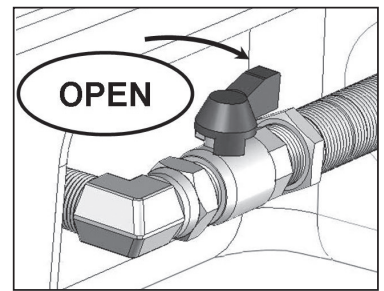

Figure 2
3. Open valve by turning the ball valve handle clockwise. The ball valve handle should be parallel with the valve body as shown in Figure 2.